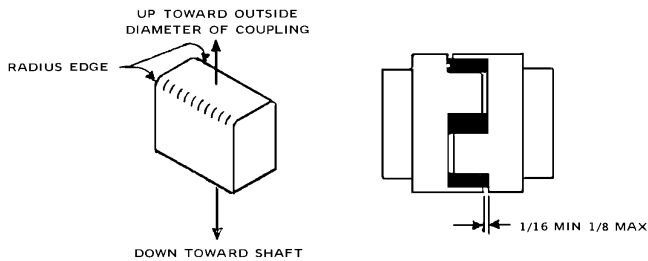
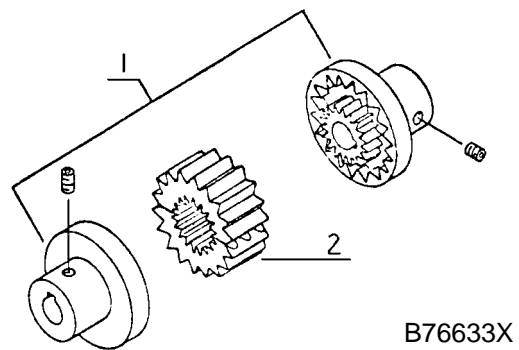

FIGURE 7-1 – INSTALLATION OF COUPLING – STYLE “A”
FIGURE 7-2 – INSTALLATION OF COUPLING – STYLE “B”
COUPLING – The motor and compressor are direct connected by a flexible coupling. Style “A” coupling has several individual cushions, (FIGURE 7-1). Style “B” has a two piece split sleeve, (FIGURE 7-2).
- a. Working through the cover plate opening, center coupling halves over the gap between the shafts, maintaining the gap as shown in FIGURE 7-1 between the ends of the jaws on one coupling body and the flange on the opposite coupling body. Tighten set screws in each coupling body.
- b. Insert individual cushions as shown in FIGURE 7-1 and slide the collar over the